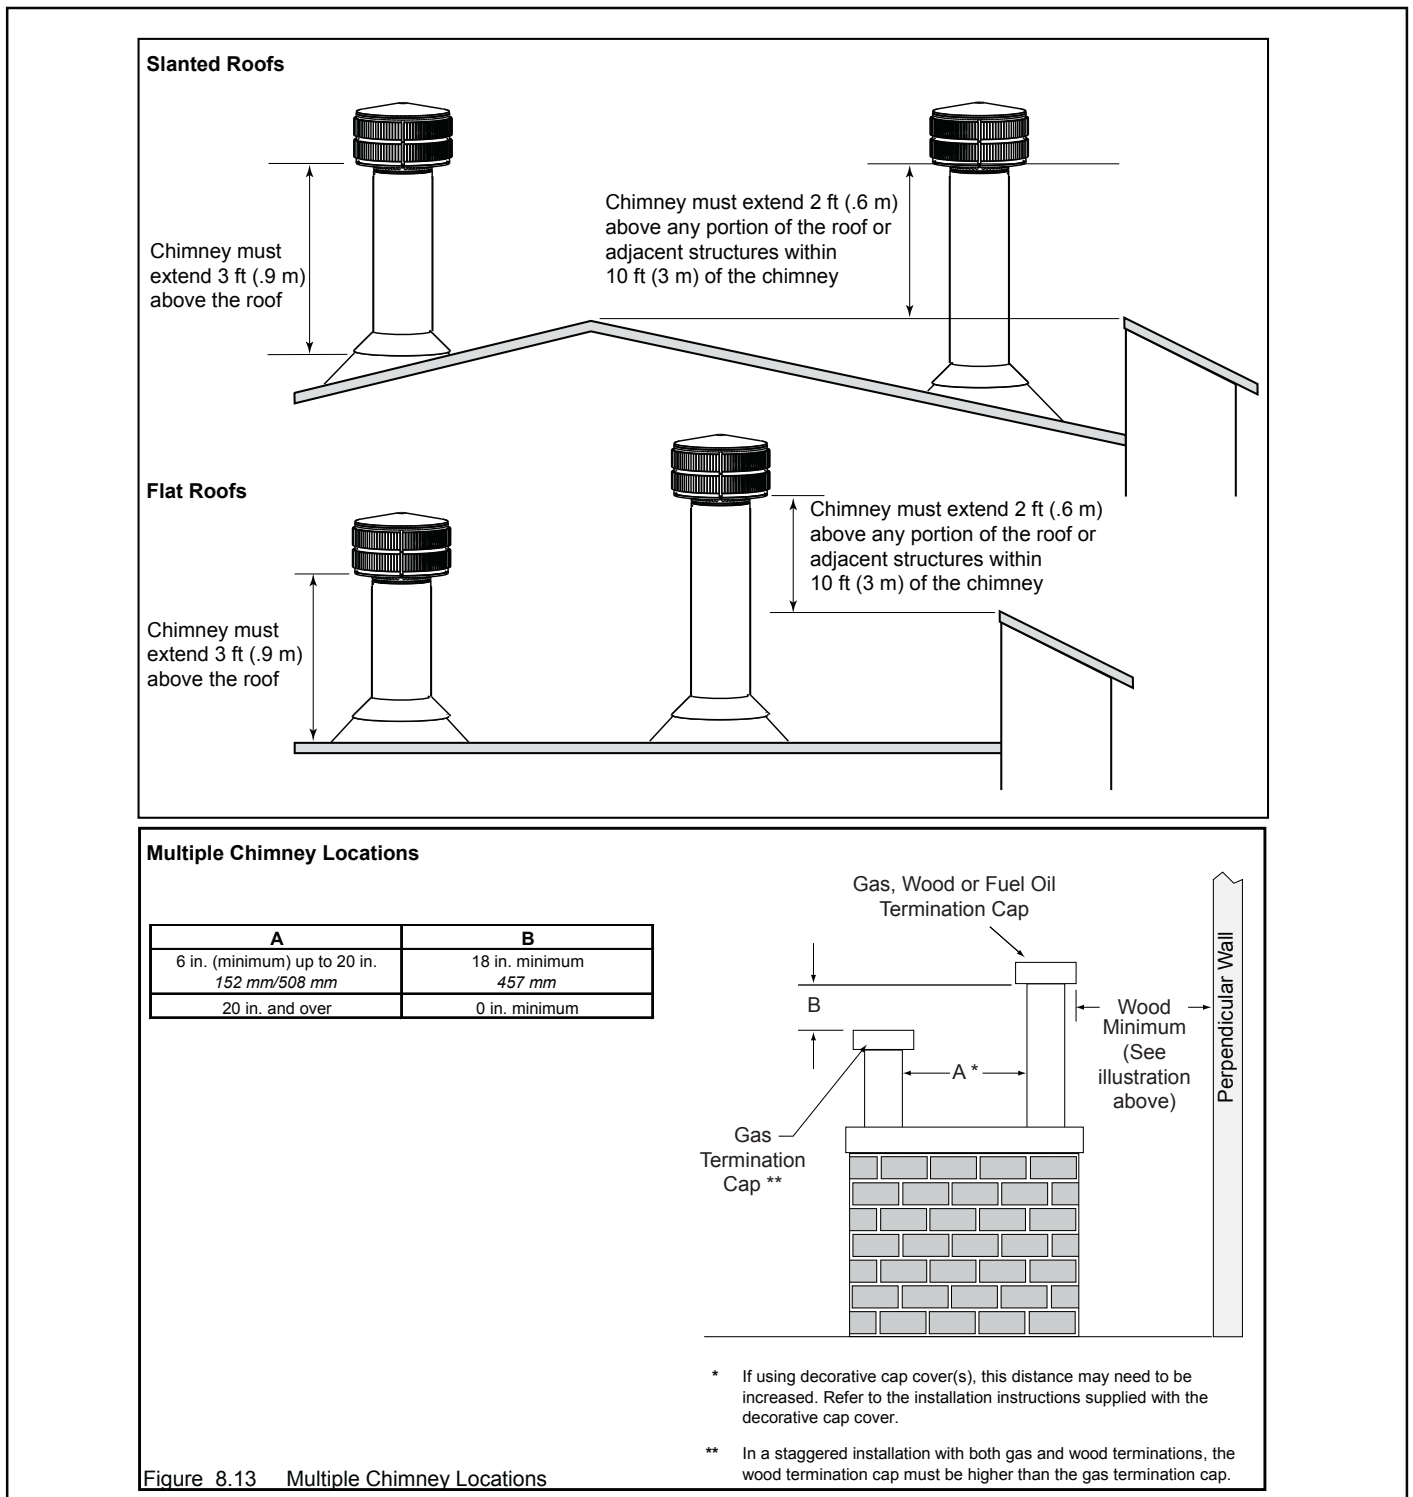

Figure 8.13 Multiple Chimney Locations
- The bottom of the termination cap must be at least 3 ft (.91 m) above the roof AND at least 2 ft (.61 m) above any portion of roof within 10 ft (3.05 m) as shown in Figure 8.13
- The distance required between caps is shown in Figure 8.13.